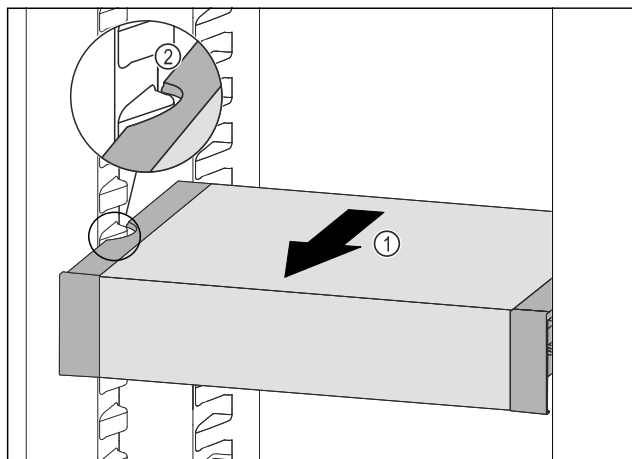

Fig. 93
- Pull VarioSafe forwards Fig. 93 (1) until the recesses in the side of the VarioSafe are at the level of the support rib in the fridge section. Fig. 93 (2)